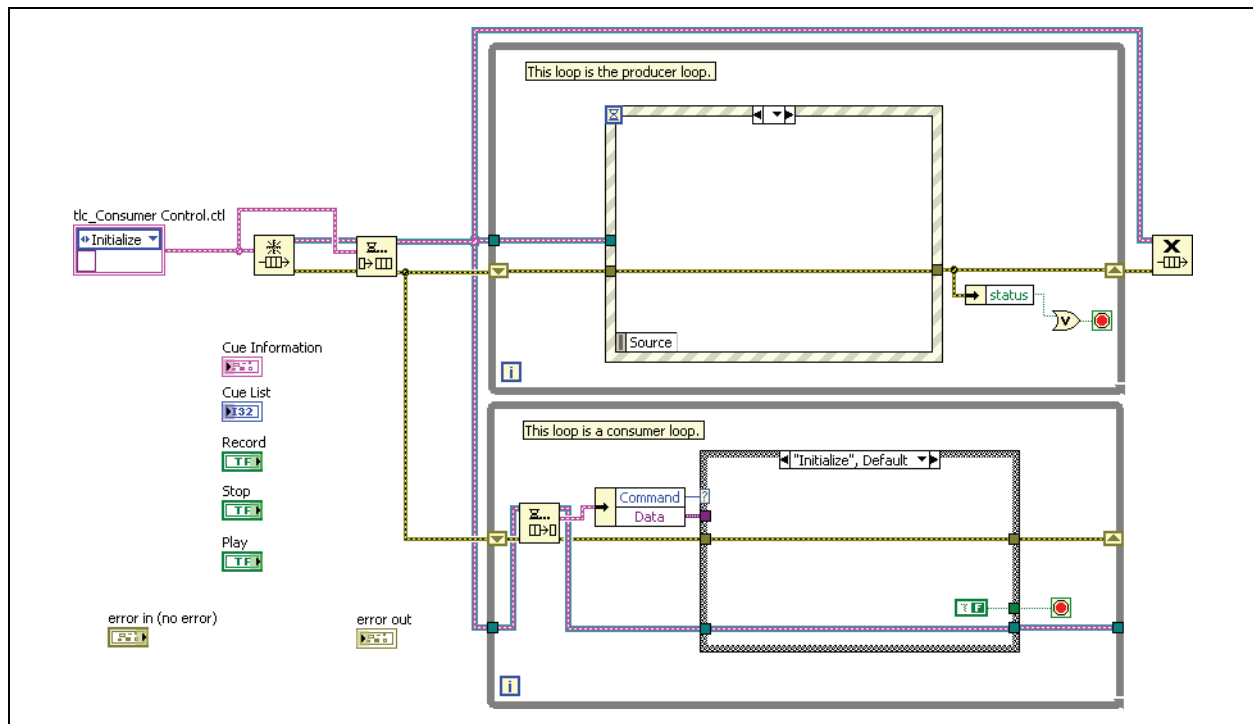

Figure 6-1. Theatre Light Controller Architecture
Implement the architecture for the Producer/Consumer (Events) design pattern, as shown in Figure 6-1.
7. In the consumer loop of the design pattern, ensure a case exists to process each function in the enumerated data type. The resulting block diagram should be similar to Figure 6-1.